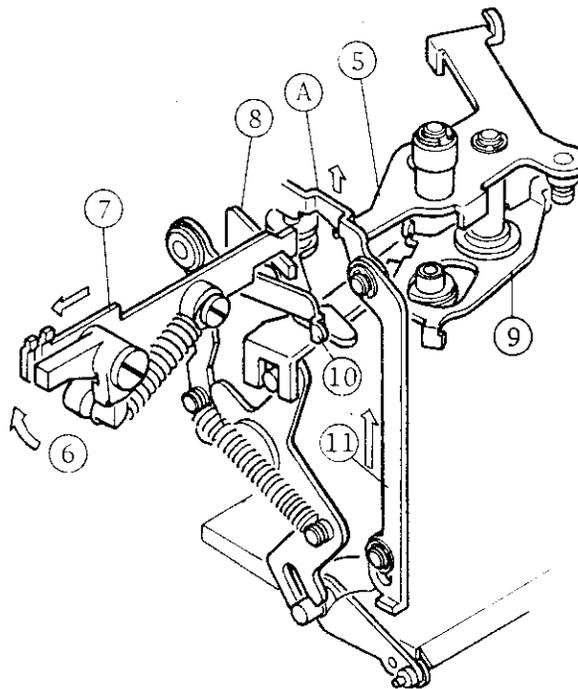

Fig.25
- ⑥.⑦ Releasing the mirror, mirror up (Fig. 25)
- ⑪ Returning the mirror (Fig. 25)
(Fig. 25)
6. The ⑧ mirror latch is unlatched and then the mirror rises up.
7. Just before the mirror has risen up, the 1st curtain is started by the ⑩ 1st curtain start lever goes down.
8. With the second curtain closed, the mirror returns to the viewing position by the ⑪ mirror return lever moves in direction shown by the arrow. (Fig. 25)